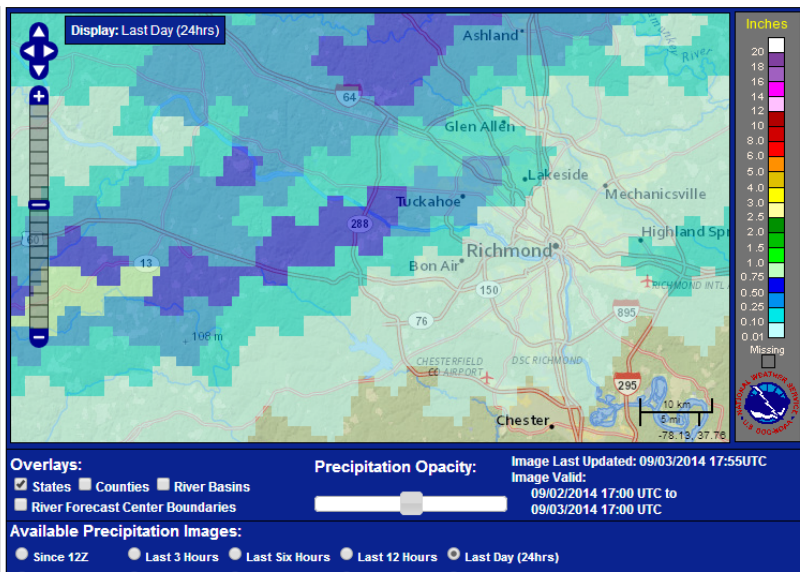

Figure 4. Example of a Precipitation Summary
- ✓ Rainfall data can be gathered from the link below by navigating to the vicinity of the outfall on the map and selecting the last day or last 2 days. The map will depict rainfall precipitation ranges using a color scale (See Figure 4):